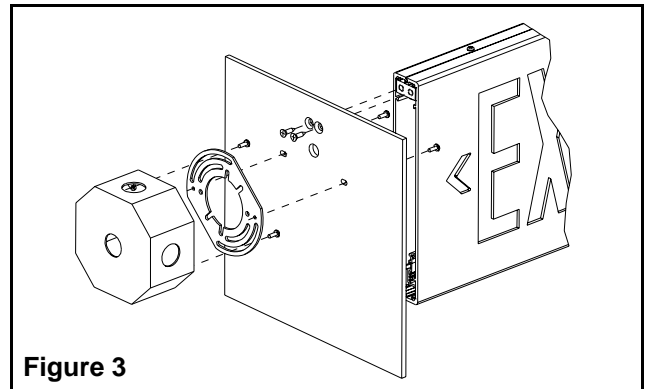

Figure 3
- a. Feed AC supply leads through the center hole in end mounting plate. Attach the end mounting plate to the end bar using the two  $\text{Ø}1/4 \times 1/2$ " flat head screws (see fig. 3).
- For end mount** — Insert the two end mounting screws 1" in the end mounting plate (see fig. 3) and into the spider plate.